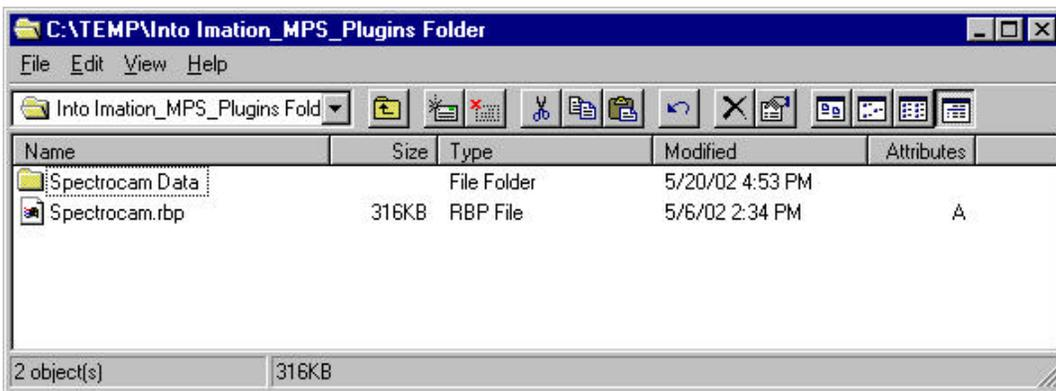

Figure 4
- Navigate to and **Open** the **C:\TEMP\ Into Imation_MPS_Plugins** folder (see figure 4). Select both items (Ctrl+A), and **copy** them into the **C:\Program Files\Imation\Imation Matchprint Professional Server\Plugins** folder. When you are done, the **Plugins** folder should look like: